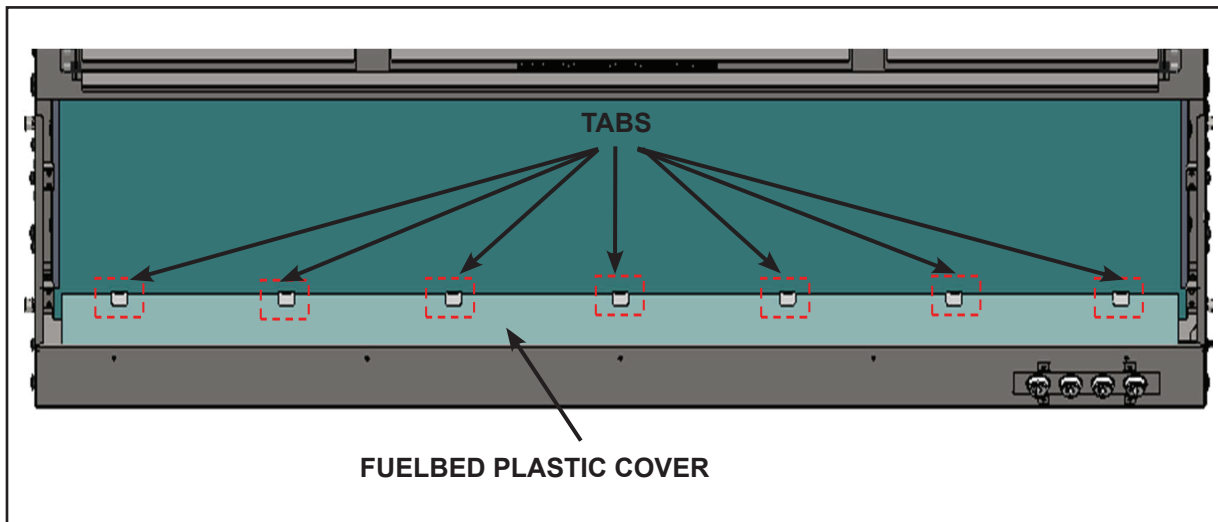

Figure 6. Remove Plastic Cover
5. Using a flathead screwdriver, pry open the seven tabs as shown in Figure 6. Pry the tabs upward at a 30 degree angle. During this step, take care not to scratch or damage the glass panel behind the tabs.
6. Remove the fuelbed plastic cover that covers the fuelbed LED light strips. See Figure 6.